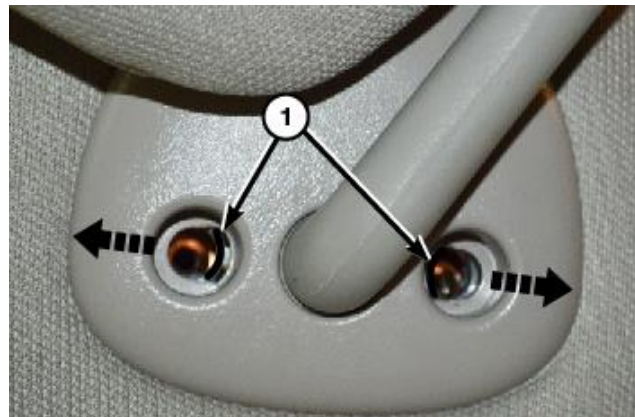

Figure 8 – Visors
Using a small flat bladed tool or equivalent, release the retaining tabs (1) and separate the visor from the headliner (Figure 8).